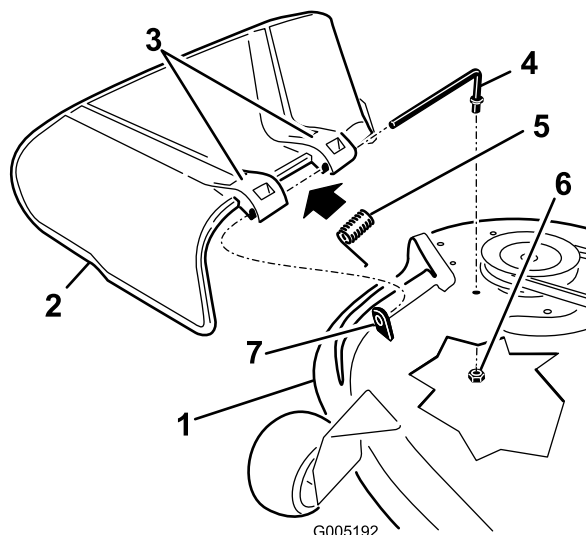

Figure 66
- Remove the nut (3/8 inch) from the rod under the mower (Figure 66).
- Slide the rod out of the short stand-off, spring, and grass deflector (Figure 66).
- Replace the grass deflector (Figure 66).
- Slide the rod through the second grass-deflector bracket (Figure 66).
- Secure the rear end of the rod into the mower with a nut (3/8 inch) as shown in Figure 66.